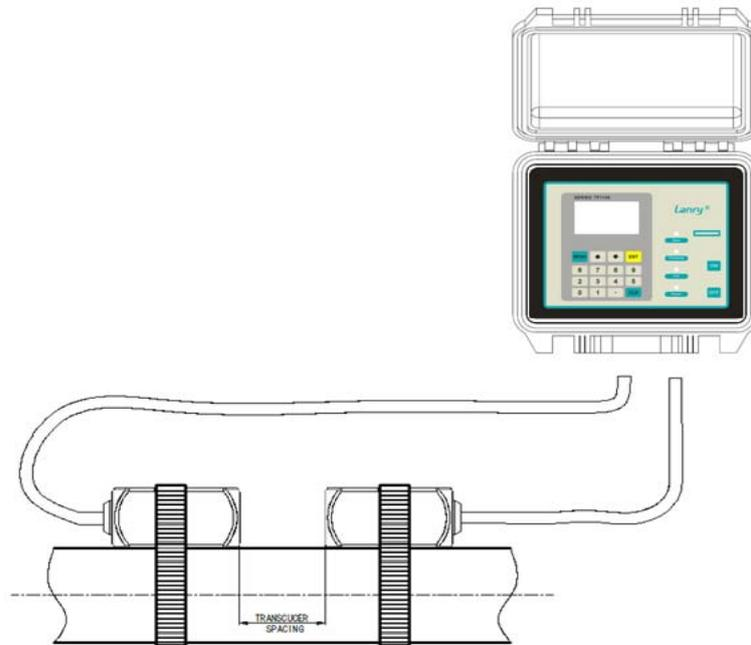

Figure 2.3 Transducer position
3. Place the downstream transducer on the pipe at the calculated transducer spacing. See **Figure 2.3**. Using firm hand pressure, slowly move the transducer both towards and away from the upstream transducer while observing Signal Strength. Clamp the transducer at